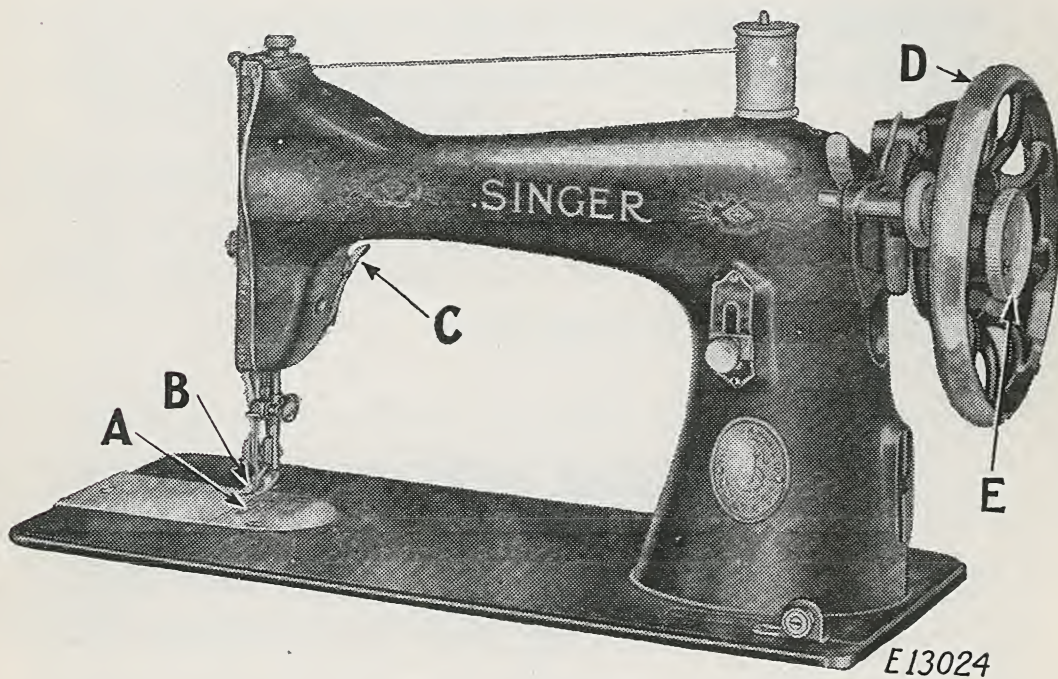

FIG. 2. FRONT VIEW OF MACHINE 15-96
To release the balance wheel (D, Fig. 2) turn the stop motion screw (E, Fig. 2) over toward you. It will be necessary to hold the balance wheel while loosening the stop motion screw.
Raise the presser foot (B, Fig. 2) by means of the presser bar lifter (C, Fig. 2) to prevent injury to the foot (B, Fig. 2) and feed (A, Fig. 2).
It is necessary to understand the stop motion (E, Fig. 2) by which the balance wheel (D, Fig. 2) can be released when required, thus enabling the operator to become proficient in the use of the hand driving attachment and permitting the winding of bobbins without running the stitching mechanism. It also allows the operator to wind bobbins without removing partially sewn work and without unthreading the machine.
To release the balance wheel (D, Fig. 2), turn the stop motion screw (E, Fig. 2) over toward you. It will be necessary to hold the balance wheel while loosening the stop motion screw.
Release the balance wheel (D, Fig. 2) by turning the stop motion screw (E, Fig. 2) over toward you. It is necessary to hold the balance wheel (D) while loosening the stop motion screw.